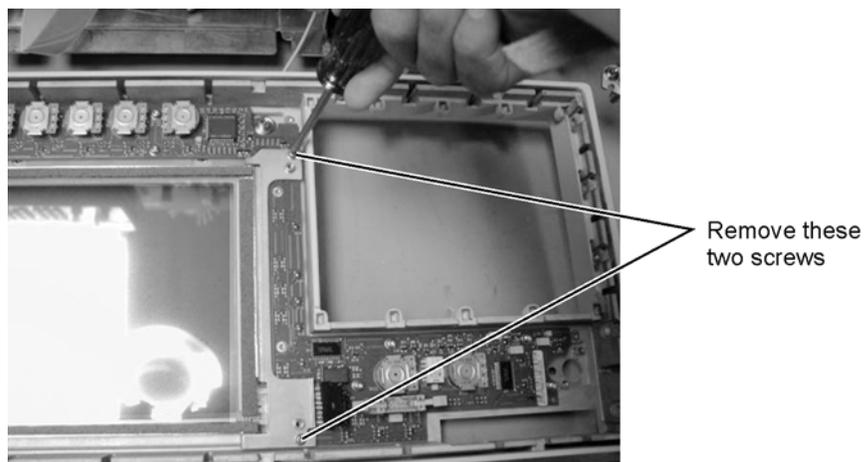

Figure 7-51. Removing the Touch Screen Screws
- 5 Use a T-10 TORX driver to remove the two screws from the touch screen board, as shown in Figure 7-51, then lift bracket out of front panel.